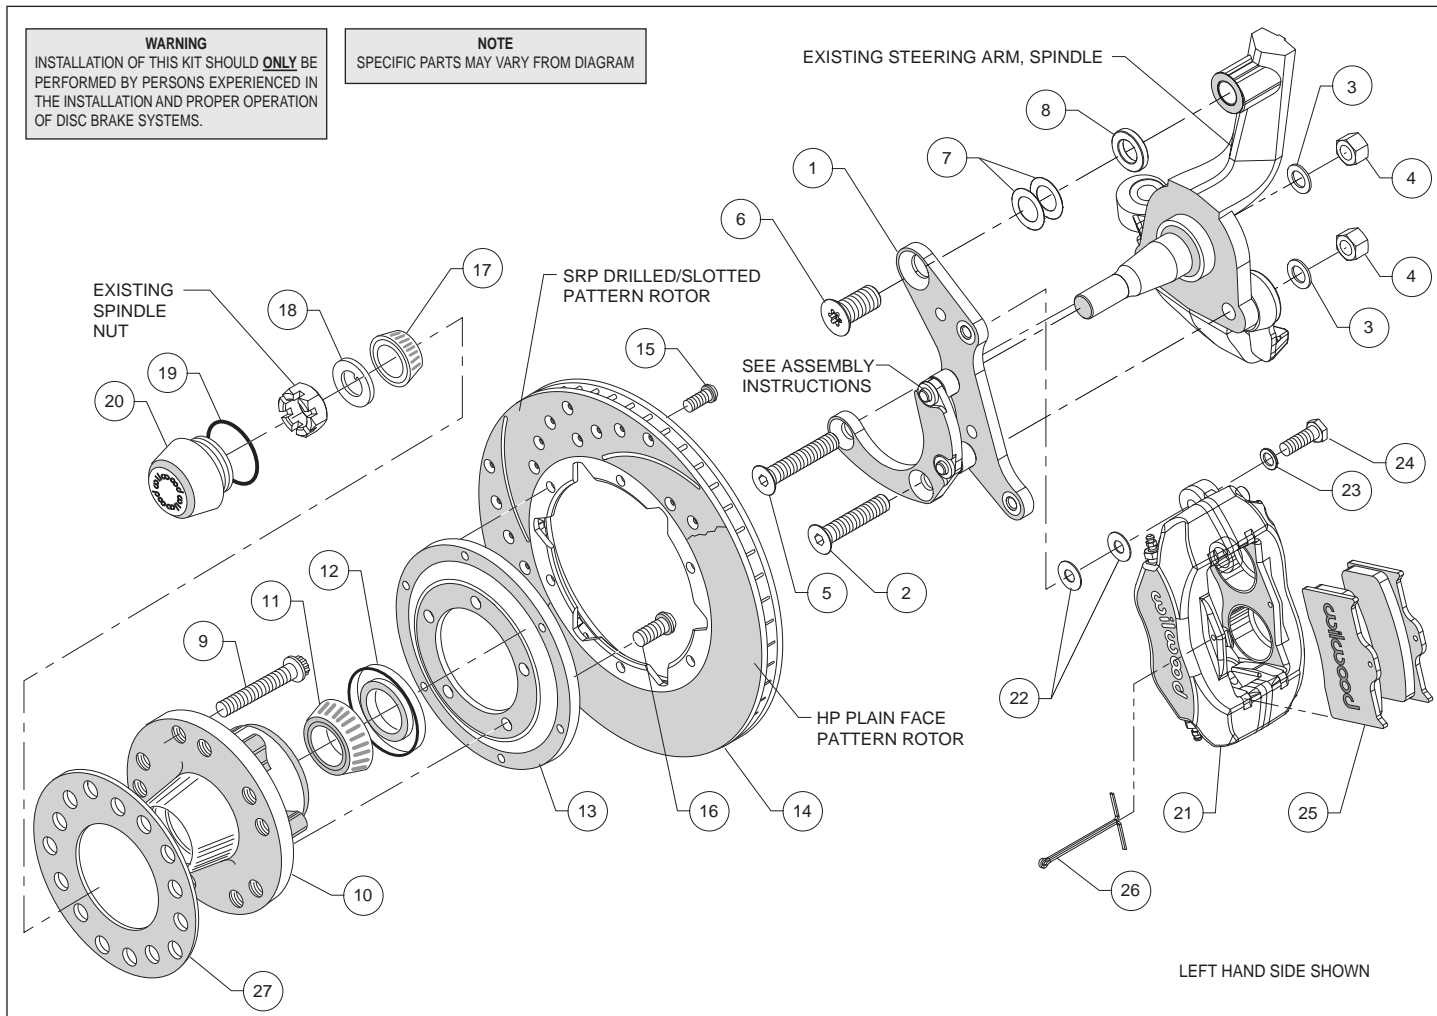
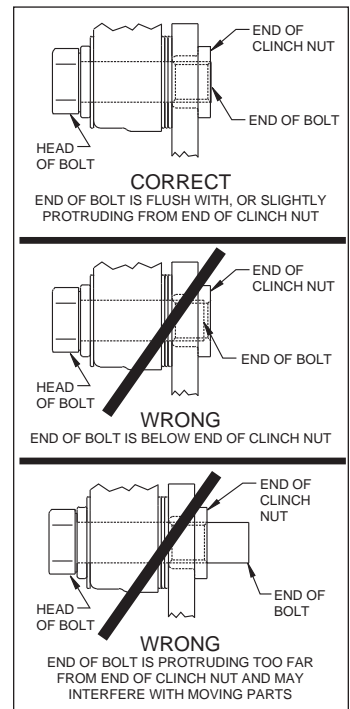

Figure 1. Typical Installation Configuration
Figure 3. Clinch Nut Engagement Diagram
Assembly Instructions (numbers in parenthesis refer to the parts list and Figure 1 on the preceding pages): **CAUTION:** All mounting bolts must fully engage clinch nuts. Be sure to check that all bolts are either flush or protruding through flanged side of clinch nut after shimming, Figure 3.
- The caliper mounting bracket (1) has been assembled at the factory for alignment purposes. Loosen the two bolts that secure the brackets together so that the bolts are hand tight only, this will enable the bracket assembly to be adjusted to accommodate various spindle tolerances during assembly. Align bracket with the two lower holes on the spindle face and attach using bolts (2 and 5), washers (3), and secure using nuts (4), as shown in Figure 1 and Photo 1. Install bolt (6) through top of bracket while placing spacer (8) and shims (7) between bracket and spindle, Figure 1. Initially place two .010" thick shims (7) on the top bolt between the bracket and upright, Figure 1. Temporarily tighten the mounting bolts. Ensure that the flanged heads of the clinch nuts in the bracket are facing outboard, Photo 1. **NOTE:** The bracket must fit squarely against the mounting points on the spindle and be parallel with the mounting face. If not, add or subtract shims (7) on the top bolt between the bracket and spacer. Inspect for interference from casting irregularities, machining ridges, burrs, etc. Remove lower bolts one at a time, apply red *Loctite*® 271 to the threads, and torque nuts to 77 ft-lb. Remove the upper bolt, apply red *Loctite*® 271 to threads, and torque to 140 ft-lb. Remove one at a time the bolts that secure the bracket assembly to each other, apply red *Loctite*® 271 to the threads and torque to 40 ft-lb.
- Install the grease seal (12) by pressing into the backside of the hub (10), flush with the end of the hub, Photo 3.
- Orient the rotor (14) and the rotor adapter (13) as shown in Figure 1 and Photo 4. Attach the rotor to the adapter using bolts (15). Using an alternating sequence, apply red *Loctite*® 271 to the threads, and torque to 25 ft-lb.
- Mount the adapter/rotor assembly (13/14) to the hub (10) using bolts (16), as shown in Figure 1 and Photo 5. Using an alternating sequence, apply red *Loctite*® 271 to the threads, and torque to 55 ft-lb.
- Pack the small outer bearing cone (17) with high temperature disc brake bearing grease and install into hub (10). Slide the hub/rotor assembly onto the spindle. Secure using spindle washer (18) and OEM spindle nut, Photo 6. Adjust bearings per OEM specifications. Install saved OEM nut lock (if any) and a new cotter pin (not supplied).
- Screw dust cap (20) into hub (10), Photo 7. Friction created by the o-ring (19) on the dust cap keeps it from unscrewing. **NOTE:** The O.D. of the existing OEM spindle washer may be larger than the I.D. of the dust cap not allowing it to seat against the hub face. Therefore, use the spindle washer (18) supplied with the kit instead of the OEM washer.
- NOTE:** Please reference the caution statement at the beginning of the assembly instructions. Mount the caliper (21) onto the caliper mounting bracket (1) using bolts (24) and washers (23), as shown in Figure 1. Initially place two .035" thick shims (22) on each bolt between the caliper and the bracket, Photo 8. Temporarily tighten the mounting bolts and view the rotor (14) through the top opening of the caliper. The rotor should be centered in the caliper, Photo 9. If not, adjust by adding or subtracting shims between the bracket and the caliper. Always use the same amount of shims on each of the two mounting bolts. **NOTE:** The end of each bolt must be flush with or slightly protruding from the head of the clinch nut, as shown in Figure 3. If necessary place spare shims between washer (23) and caliper mounting ear to achieve the proper clinch nut engagement. Once the caliper alignment and clinch nut engagement are correct, remove the bolts one at a time, apply red *Loctite*® 271 to bolt threads, and torque to 40 ft-lb.
- Install the disc brake pads (25) into the caliper, with the friction material facing the rotor (14), and secure in place using cotter pin (26), Photo 10.
- Temporarily install wheel and torque lug nuts to manufacturer's specification. Ensure that the wheel rotates freely without any interference. **NOTE:** Wheel spacer (item 27) **MUST** be used if any wheel contact surfaces overhang the outside diameter of the hub face. See warning on page 3.